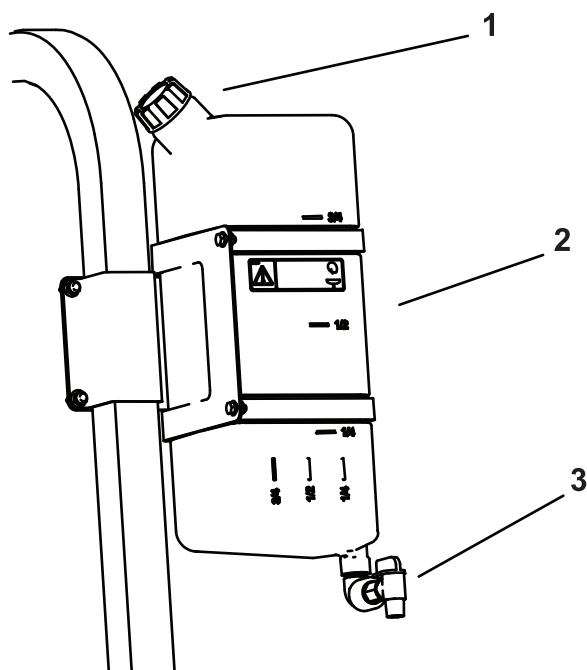

Figure 71
- To fill the tank, unscrew the cap at the top of the tank, fill the tank with fresh water, and install the cap (Figure 71).
- To open the fresh-water tank spigot, turn the lever on the spigot (Figure 71).